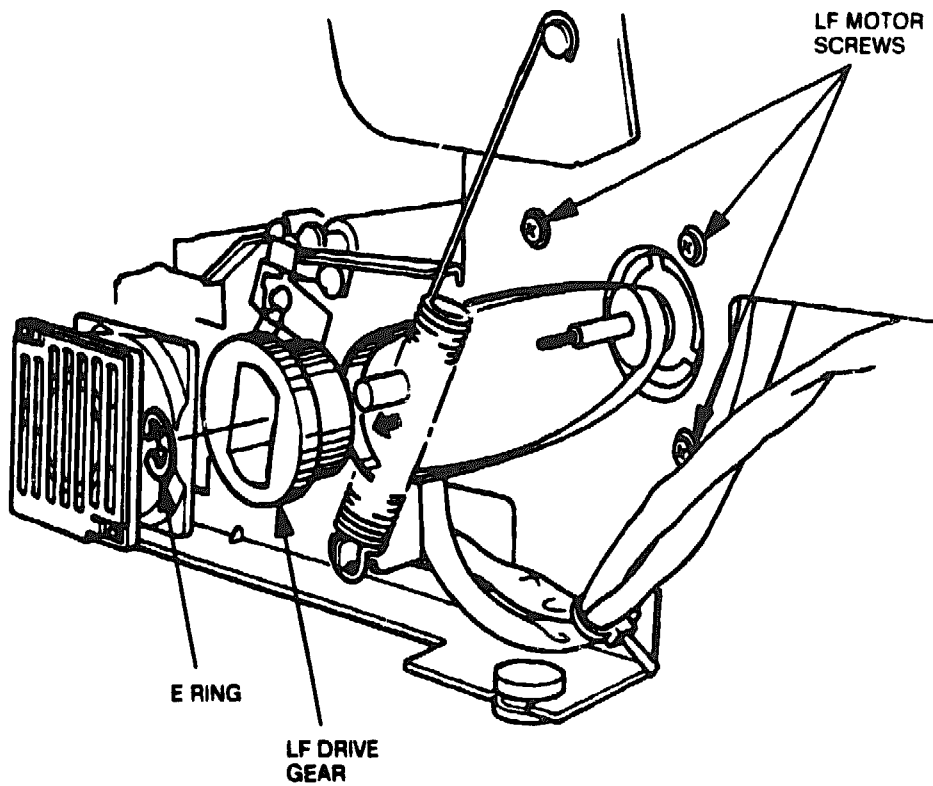

Figure 6-66 LF Drive Gear and LF Motor Screws
3. Loosen the three screws shown in Figure 6-66 securing the LF motor assembly to the lower side (R) plate.
4. Using a flat-tip screwdriver, remove the E retaining ring on the LF drive gear (see Figure 6-66). Then pull off the LF drive gear.